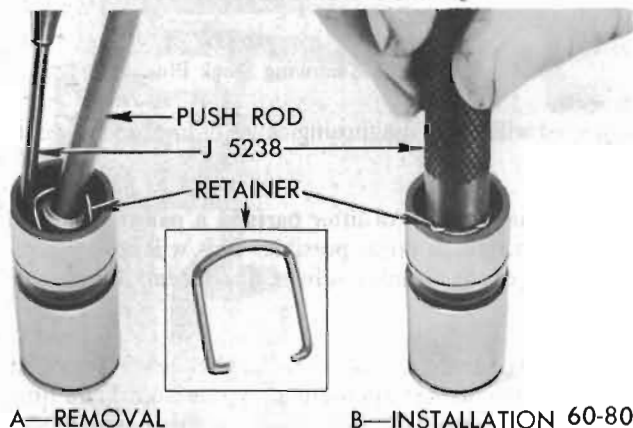

Figure 60-84 - Removing and Installing Plunger Retainer
5. Disassemble each valve lifter by using a push rod to hold down the push rod seat while removing the plunger retainer from the lifter body using Retainer Remover J-5238. See Figure 60-84. Remove push rod seat, oil metering valve, and plunger from lifter body.
17. Rinse push rod seat, metering valve, and plunger retainer. Place these parts in end of body and push with handle of Remover J-5238 until retainer engages groove in body. See Figure 60-84, View B.
NOTE: *The newer Model J-5790 leakdown tester will have a different scale than the one shown in Figure 60-84. In this case, time the pointer travel from "Start" to the .125 mark on the scale. The leakdown rate must still be between 12 and 60 seconds.*